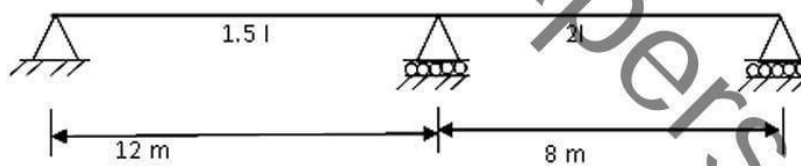

Figure 7
10. Draw the influence for reaction at the middle support. Compute the ordinates at 2 m intervals (figure 7). [10]